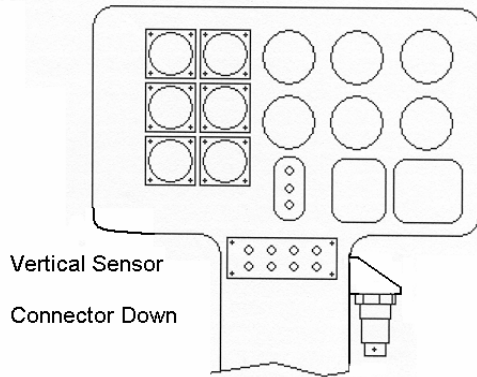

Figure 3
3. Install the Vibration Sensor Mount (Item 7) on the right hand side of the pedestal. Install a 991D-1 Sensor (Item 2) into the Mount, **ensure connector end of sensor faces down.** (Figure 3)